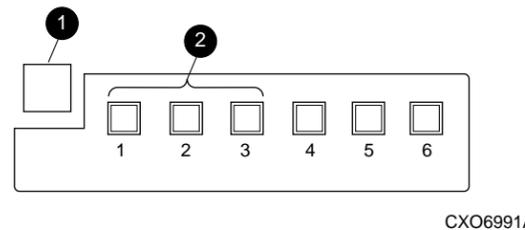

Figure 2. Controller reset button and first three LEDs
NOTE: After the controller shuts down, the reset button (1) and the first three light emitting diodes (LEDs) (2) turn ON (see Figure 2). This might take several minutes to happen, depending on the amount of data that needs to be flushed from the cache module.